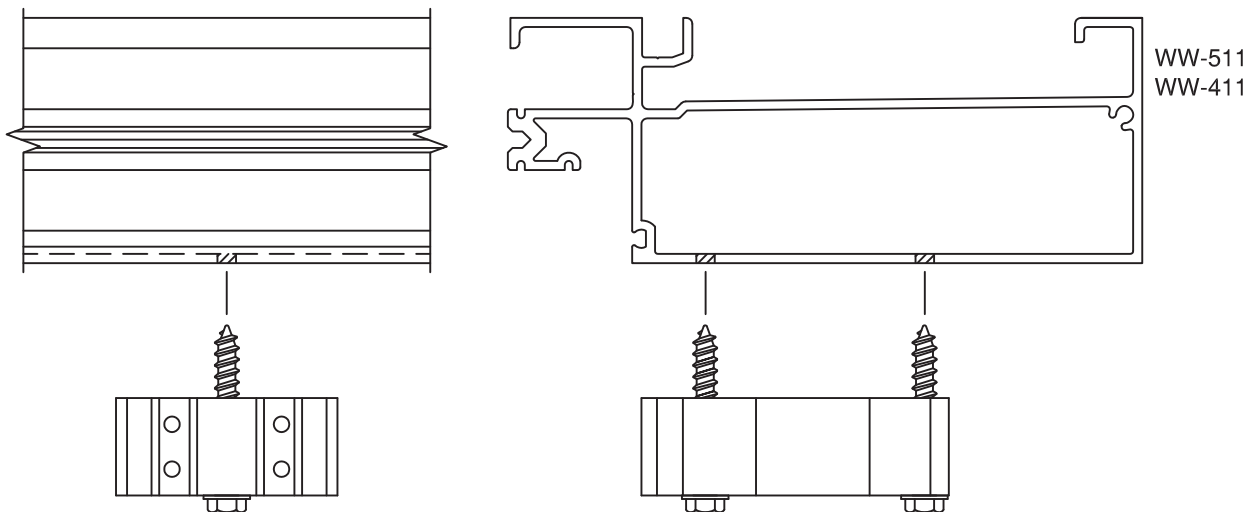

Figure 35
D.3 Attach mullion shear blocks to the underside of the head member. **SEE FIGURE 35.**